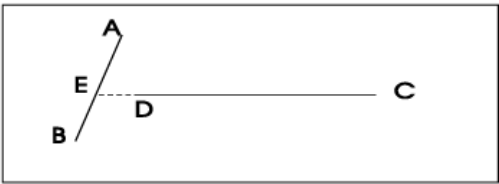

FIGURE 4 Linear extension, example 3
- In Figure 4, CD has a tolerance layer larger than both the distances DE and CD. In this case, point D (rather than point C) will be extended to point E, since it has the smaller extension distance.